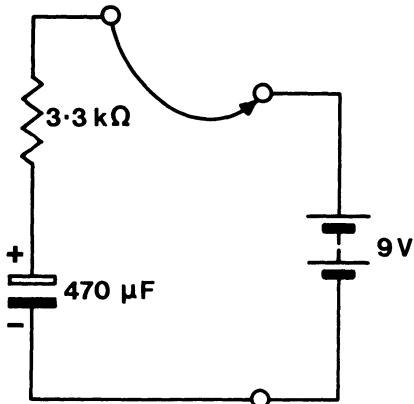
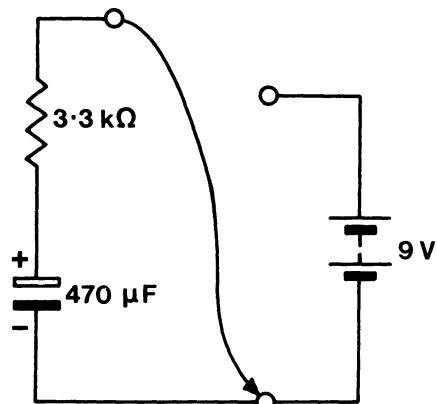

FIG. 1.23a
FIG. 1.23b
1. Connect a 470  $\mu\text{F}$  electrolytic capacitor, a 6.8  $\text{k}\Omega$  resistor and a 9 V battery in series as in Fig. 1.23a. Using a voltmeter, watch what happens to the voltage across the capacitor when the battery is connected in circuit. You will see that the voltage increases, at first quite quickly, then as time passes, more slowly. When the voltage across the capacitor has become steady, disconnect the battery from the circuit and connect the resistor and capacitor together as shown in Fig. 1.23b. You should now find that the voltage across the capacitor drops, quickly at first then gradually more slowly. When the voltage across the capacitor is increasing the capacitor is said to be *charging up* and when it is decreasing it is said to be *discharging*.